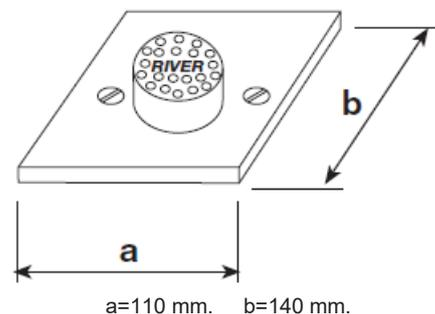

Fig.1
- Adjust the desired flow rate using the regulator (fig.1)